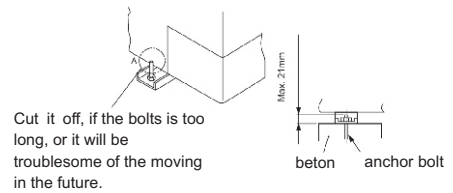
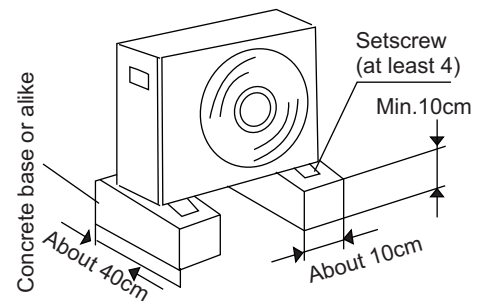

Fig. 4.3 The installation of anchor bolts
Fig.4.4
- (3) Fasten the outdoor unit as the Fig4.3.
- (4) Make sure fasten the outdoor unit tight and horizontal avoid to make noise when the machine oblique Or inclined by strong breeze or earthquake.
- (5) Not drain off water to the public places avoid to slip.
- (6) Make a strong base(made of concrete or alike). The appliance should be placed not less than 10 cm high to avoid being wet or corroded. Otherwise, it may cause damage to the appliance or reduce its life time. (Figure 4.4)